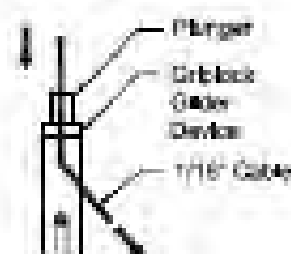

Figure 5
2. Pull Cable through to desired vertical height. See Fig. 5. Cut off any excess Cable length.